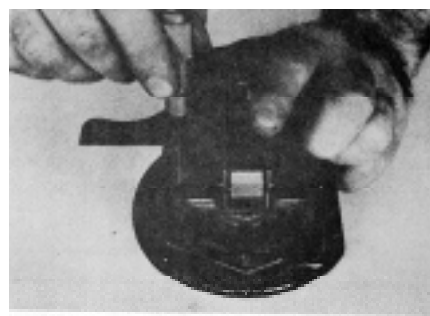

Fig. 5-67, F546. Measuring assist plunger protrusion
1. Place one leg of the depth mike base of pedestal across the carrier walls and measure down to the front cover gasket surface (no gasket). Fig. 5-67. Move the depth mike to the opposite side of the carrier and again measure to the front cover gasket surface directly across the cover from the previous measurement (do not turn carrier or cover). Average these two measurements. This procedure is necessary to eliminate any possible influence of uneven carrier wall heights.